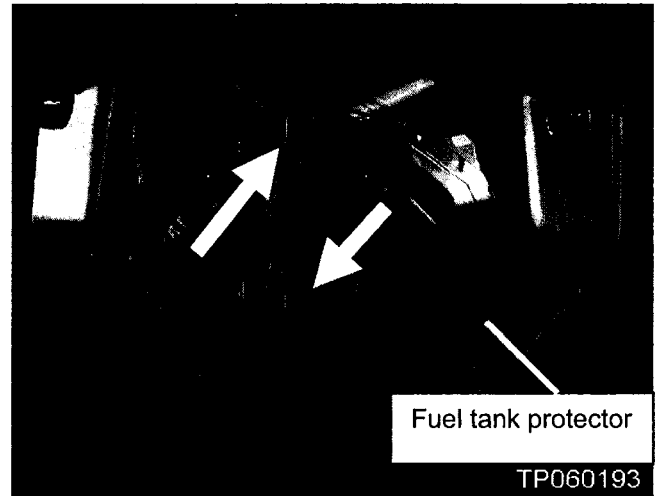

Figure 31
24. Use a small flat blade screwdriver (pocket screwdriver) to release the 2 clips show in Figure 31, then remove the fuel tank protector.